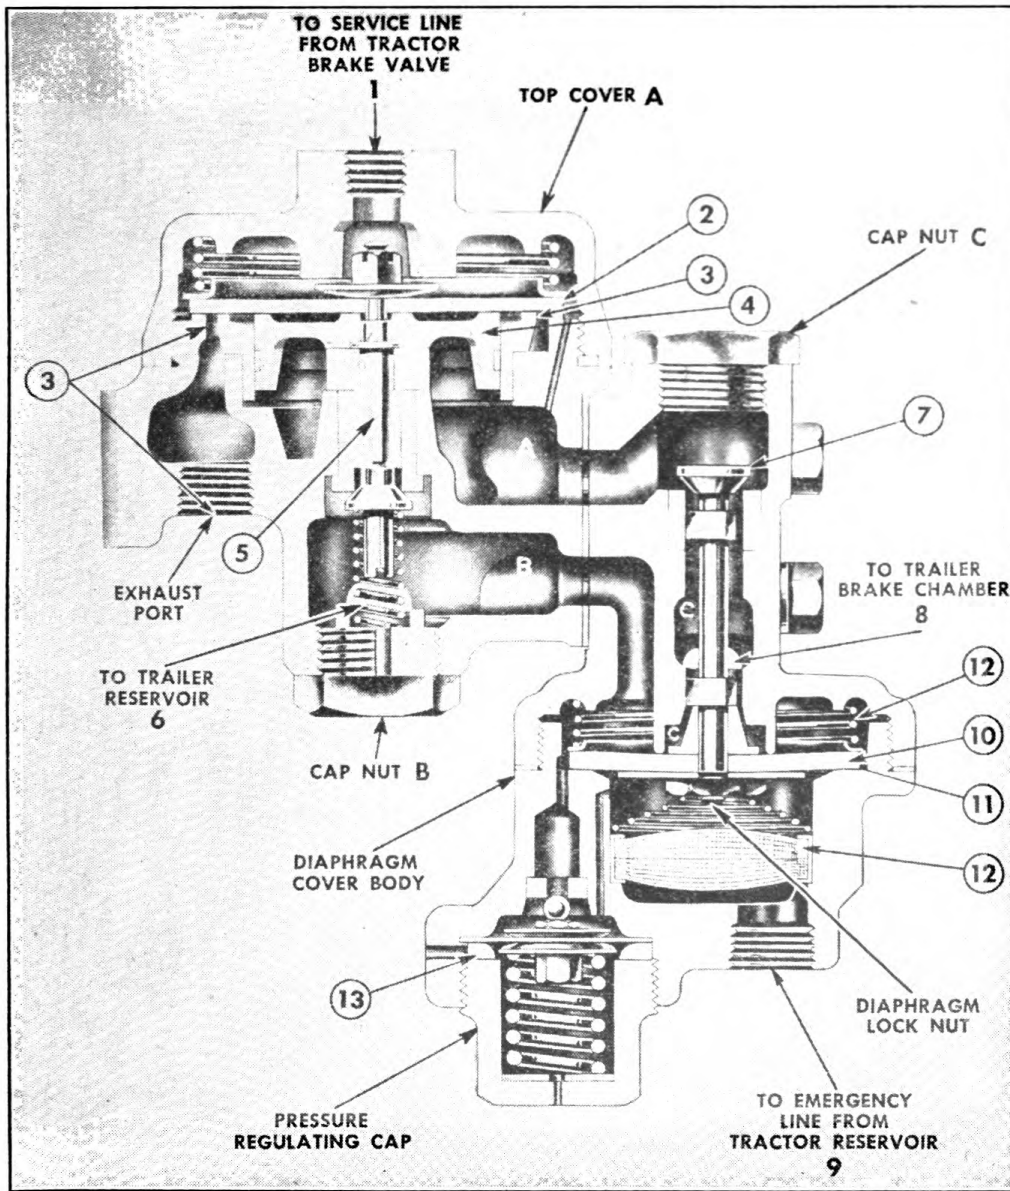

FIGURE 35. RELAY—EMERGENCY VALVE.
- (3) Bent or worn pressure plates should be replaced.
- (4) Slightly bent brake push rods may be straightened; if severely bent should be replaced.
- (5) Worn boots should be replaced.
14. RELAY-EMERGENCY VALVE (Fig. 35).—*a. Function.*—The relay-emergency valve serves as a relay station to speed up the application or release of the trailer brakes and also provides a means of automatically applying the trailer brakes in case the trailer breaks away from the tractor.
b. Operation (Fig. 35).—The operation of the relay-emergency valve is dependent upon the air pressure delivered to it by the brake valve on the tractor.
g. Disassembly.—Diaphragms (2) and (10) should be replaced once a year.
(1) *To clean or replace diaphragm (2).* (Fig. 35):
- (2) *Cleaning or replacing intake valve (5).* (Fig. 35.)
- (a) Remove the cap nut (B).
- (3) *Cleaning or replacing diaphragm (13).* (Fig. 35)
- (4) *Cleaning or replacing diaphragm (10) and washing strainer (12).* (Fig. 35.)
- (c) Remove cap nut (C). (Fig. 35.) Insert screw driver into slotted top of valve and remove diaphragm lock nut (Fig. 42). Pull out the valve stem and diaphragm (Fig. 43).
- h. Maintenance* (Fig. 35).—The complete valve should be removed from the trailer, dismantled, thoroughly cleaned, and diaphragms (2) and (10) should be replaced at least once a year.
i. Leakage tests (Fig. 35).—(1) With brakes released, cover exhaust port with soap suds. Leakage is caused by supply valve (5) not seating properly.
(2) With brakes applied, cover exhaust port with soap suds. Leakage is caused by diaphragm (2) not seating properly.
j. Emergency feature tests (Fig. 35).—(1) With full pressure in the trailer reservoir, disconnect emergency line between tractor and trailer. Trailer brakes should apply automatically. This feature should be checked daily.
(2) Cover emergency line hose coupling at front of trailer with soap suds to check for leakage. Leakage is caused by diaphragm (10) not seating properly at (11).
(3) With valve still in emergency position, cover exhaust port with soap suds. Leakage in excess of that evident in test one is caused by valve (7) not seating properly.